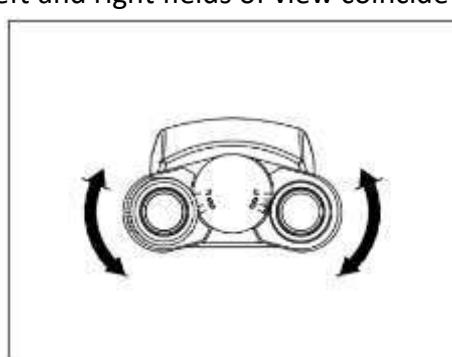

Fig.22
3.2.6 Adjusting the interpupillary distance (Fig.22)